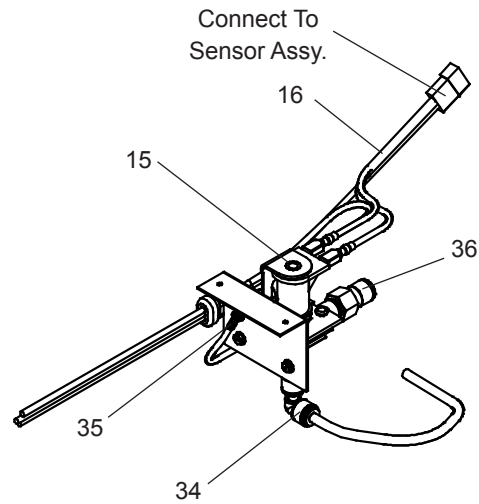

Figure 18 – View of Solenoid Valve
10. **Connect power cord of sensor to solenoid valve by running it through the back panel and connecting it as shown in Fig. 18.** Connectors may be connected to either terminal on solenoid valve. Attach ground wire to solenoid valve bracket with green ground screw.